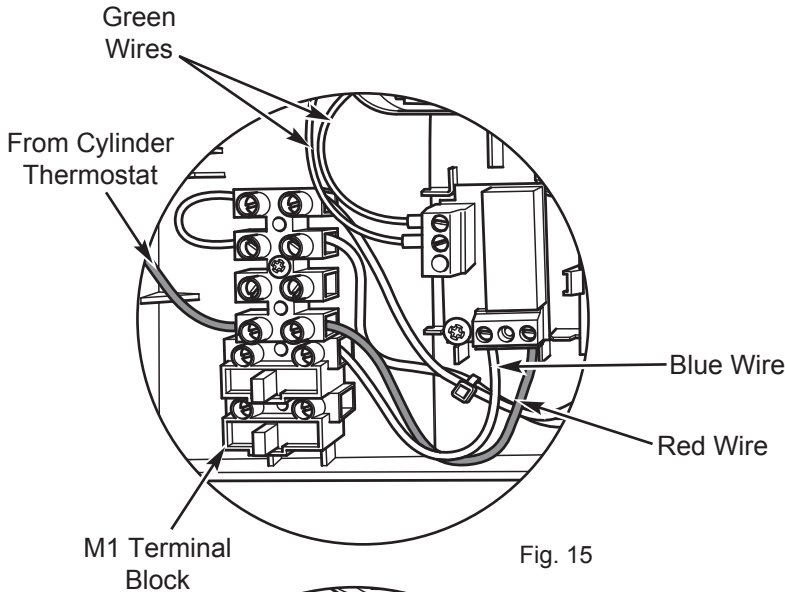

Fig. 15
5. A 230V switched live from the DHW cylinder thermostat (demand signal) must be connected to the spare position on terminal block M1 (Figs. 15 & 19).